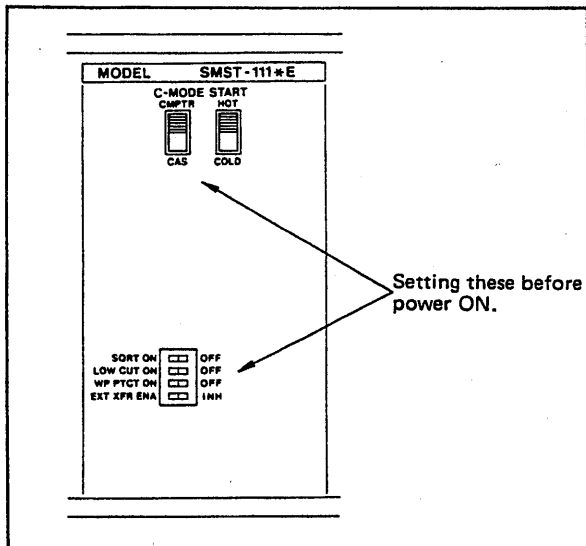

Figure 5-11. Setting Switches.
(2) Setting Switches. (Figure 5-11)